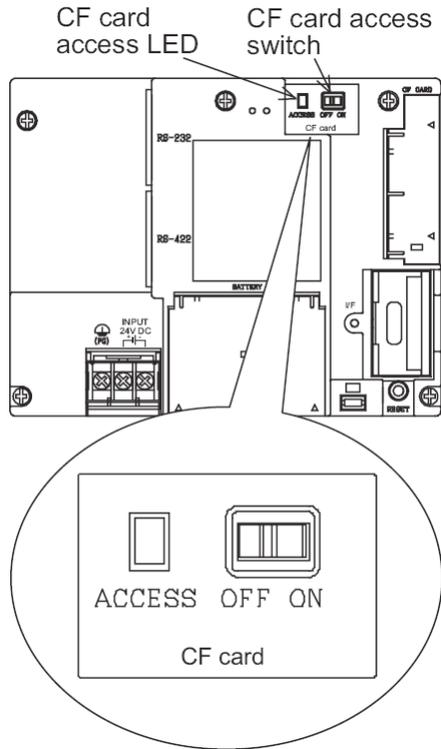

Fig E-19. CF Card Access
E.8.5 HMI CompactFlash (CF) Memory Card Removal
1. Set the access switch on the HMI to “OFF”. See Fig E-19.